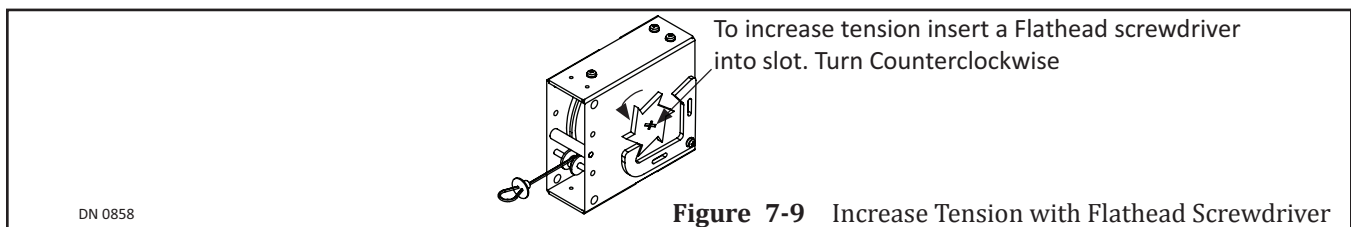

Figure 7-9 Increase Tension with Flathead Screwdriver
2. With a Flathead screwdriver turn the Tension plate counterclockwise to increase tension. Please see Figure 7-9.